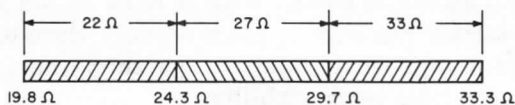

Figure 5-7. Possible resistance ranges of 10% tolerance resistor values.
29.7 Ω . The range of values of a 33 ohm resistor is $33 - 3.3 = 29.7\Omega$ to $33 + 3.3 = 36.3\Omega$. For a 22 ohm resistor the range is $22 - 2.2 = 19.8\Omega$ to $22 + 2.2 = 24.2\Omega$. This information is shown in the graph of Figure 5-7. You can see that the possible values cover the complete range from 19.8 to 36.3 Ω . It is not necessary to have any other values between those given. This same relationship could be shown for any other group of values.